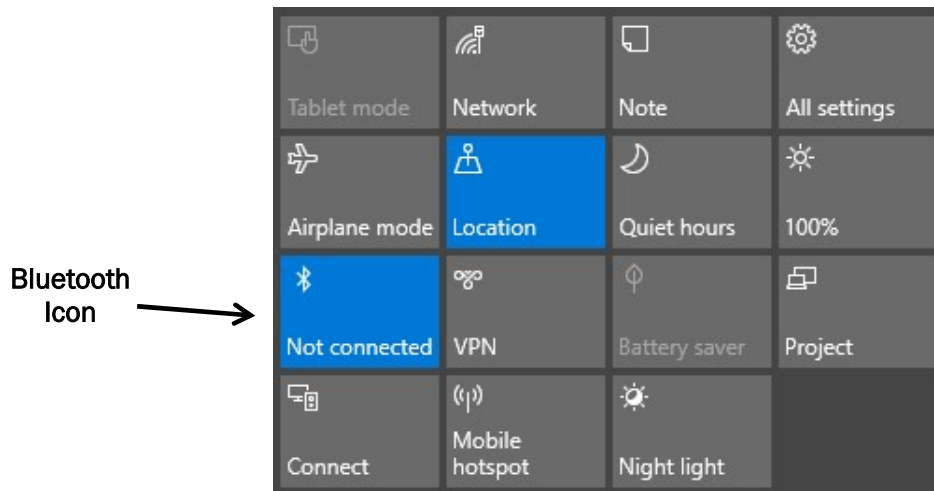

Figure 8-1: Expanded Windows 10 Notification Sidebar
- Click on the Notification Box in the bottom right corner (Refer to Figure 8-1). You may be able to click directly on the Bluetooth icon usually in the lower right corner of the screen.